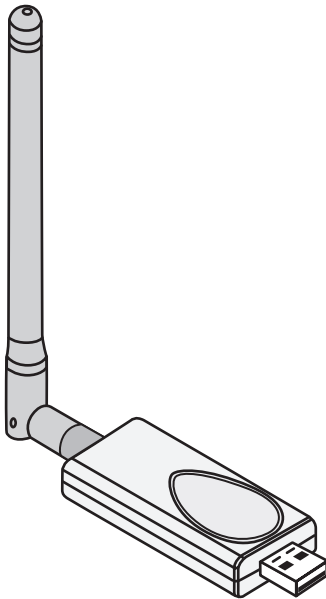

Figure 1. COM Port connection
8. In the drop-down area next to Connect [F5] select the COM PORT that shows the "GATEWAYCTRL" device with the green check mark (figure 1).